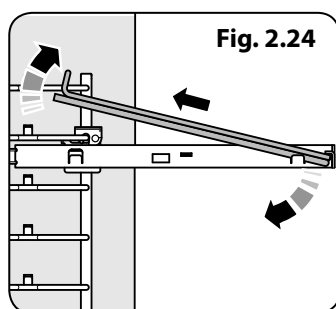

Fig. 2.24
3. Tilt the front of the shelf downwards and then lift clear of the runners (Fig. 2.24).